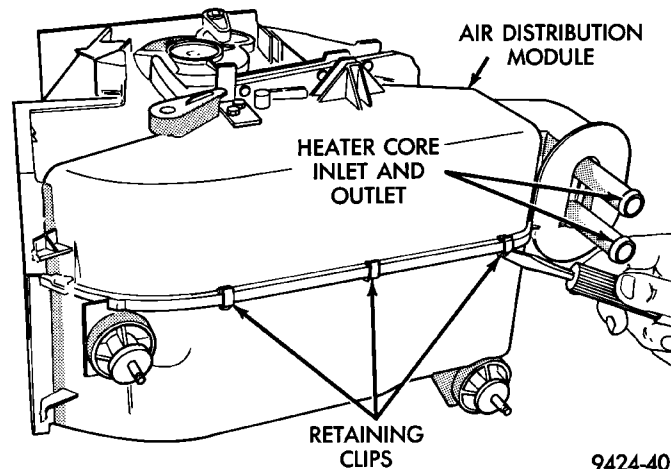

Fig. 47 Retaining Clip Removal
(2) Remove the panel opening foam seal, demister opening foam seal, and heater core tube foam seals from unit.
(3) Remove the retaining clips and screws that hold the upper and lower housings together (Fig. 47).